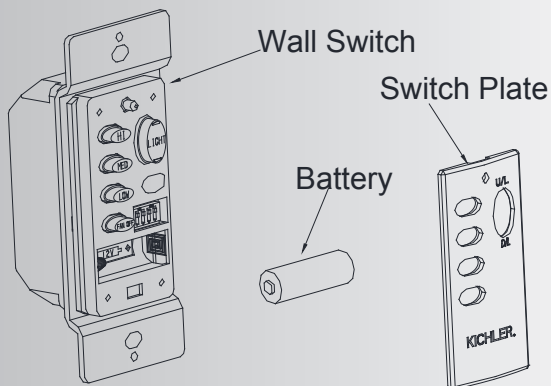

Fig. 26
Step 1. Use a small flat screw driver and gently pry it apart from the top or bottom of the switch plate. Install 1, 12volt battery included with wall mount Control system and make sure it is seated correctly. Replace the switch plate. (Fig. 26)
Step 2. Test the transmitter by pressing and releasing ANY button. A RED Light should illuminate, if not, check to make sure the battery is inserted and seated correctly. (Fig. 26)